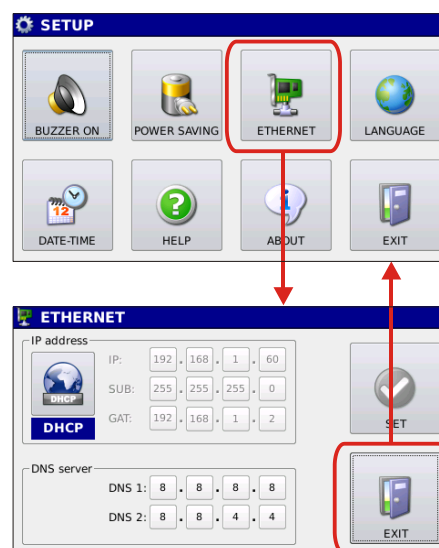

Fig. 6.7: Ethernet connection configuration menu
6.3 ETHERNET: Network connection configuration. By pressing the ETHERNET key allows you to access the window for managing connection to the instrument network (Fig. 6.7).